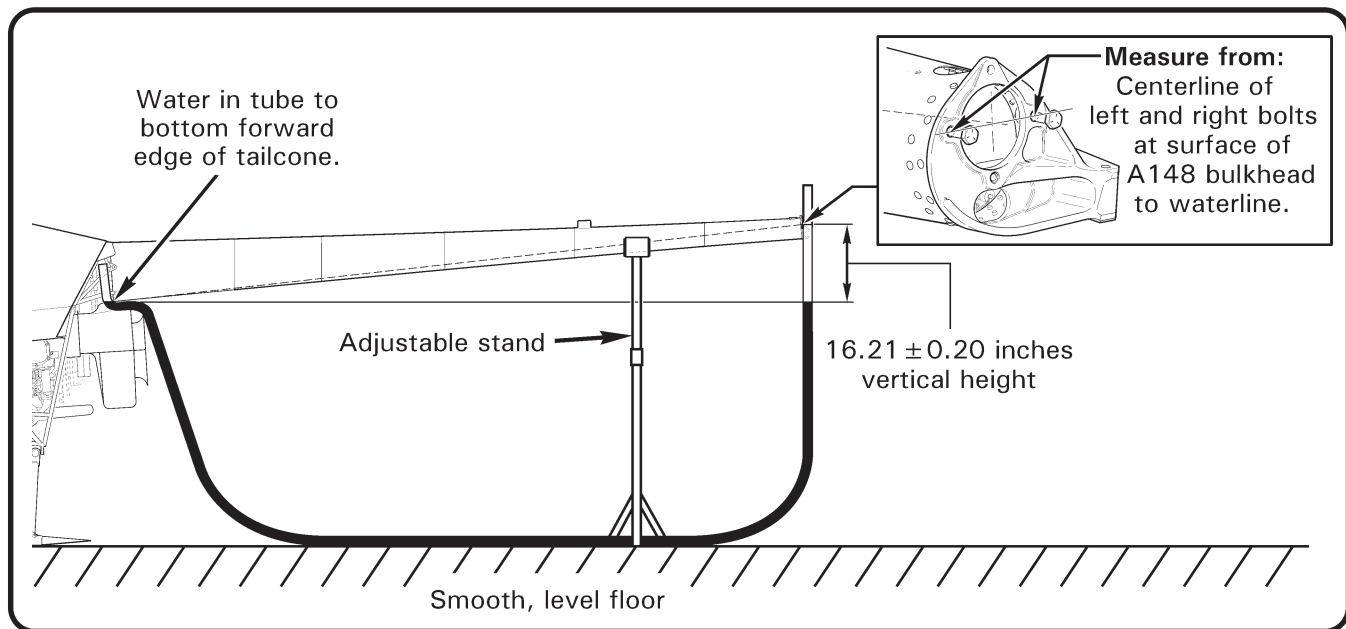

FIGURE 4-2C TAILCONE VERTICAL ALIGNMENT
5. Refer to Figure 4-2C. Use a water level and measure the difference in vertical height between forward end of tailcone (at lowest point) and centerline of left & right bolts at surface of A148 bulkhead. Using stand, adjust height of tailcone to  $16.21 \pm 0.20$  inches.